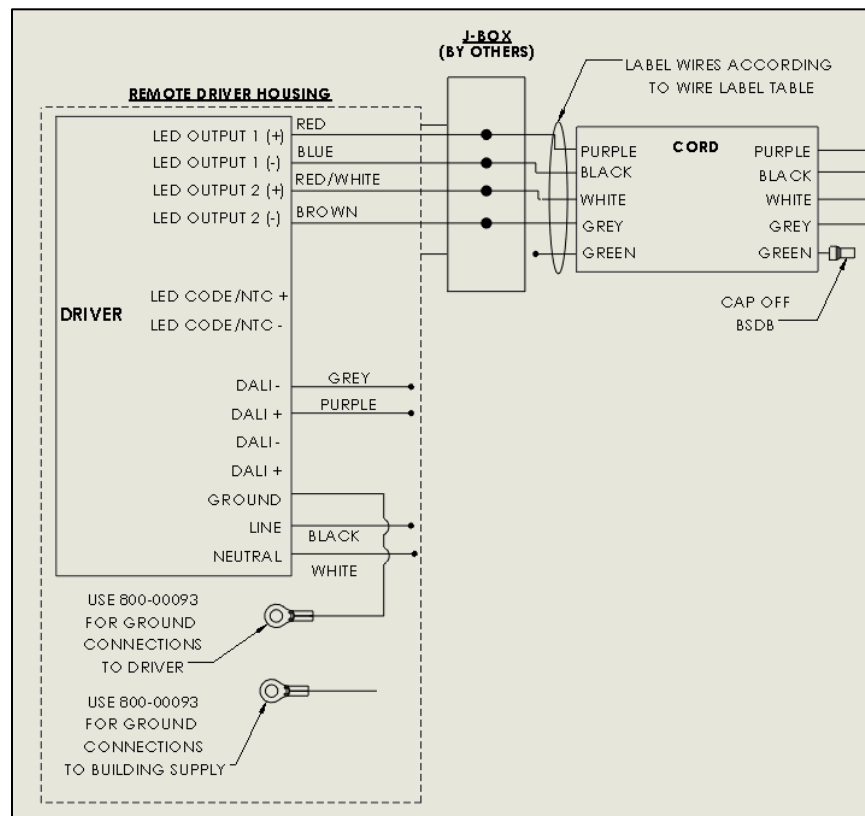

FIG. 14 – WIRE DIAGRAM FOR RV1\_RV2-P1EM-TWH1 SERIES (FOR DALI CONTROL)
5. Run 16 gauge or larger wires from the remote box to the fixture junction box (wires, conduit & junction box by others). See wiring diagram below for number of conductors required. Inside the REMOTE DRIVER HOUSING, connect as per in FIG. 8 below. Refer WIRE DIAGRAM for exact wire connections as shown in FIG. 11 for DM8 connection and FIG.14 for DALI connection below.